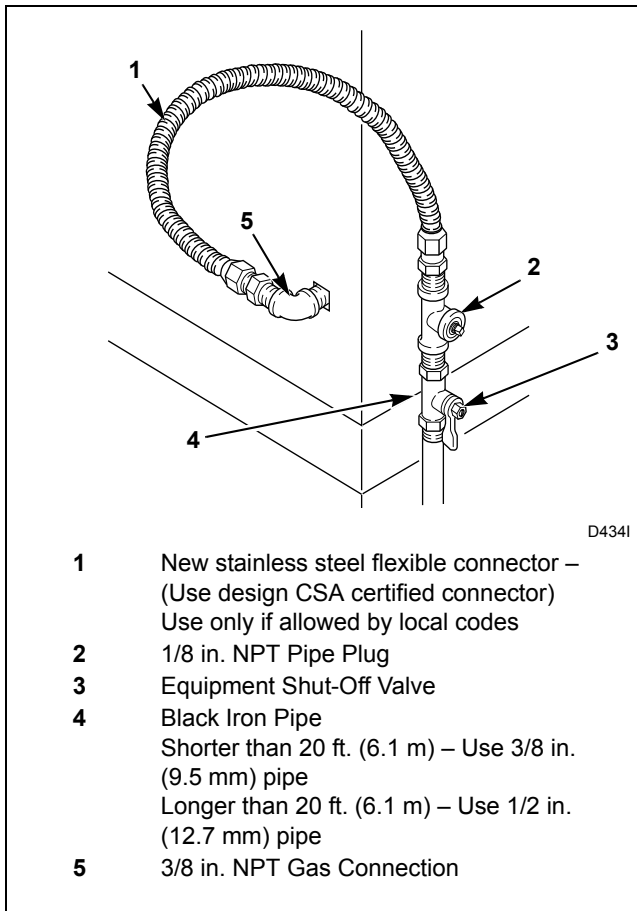

Figure 11
**NOTE: When connecting to a gas line, an equipment shut-off valve must be installed within 6 feet (1.8 m) of the dryer. An 1/8 in. NPT pipe plug must be installed as shown for checking inlet pressure. Refer to Figure 11.**